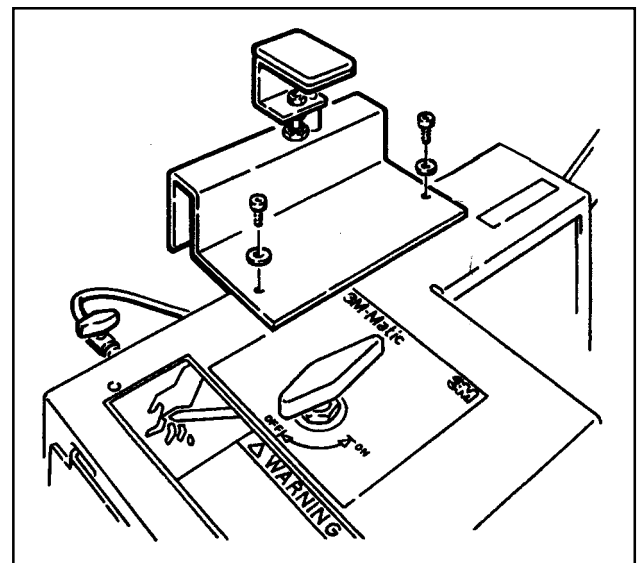

Figure 6—Remove Mounting Bracket
4. To convert applicator back to L-clip operation, turn off U-clip attachment ball valve, unscrew and remove mounting bracket and attach to left side of the applicator for storage as shown in Figure 6.